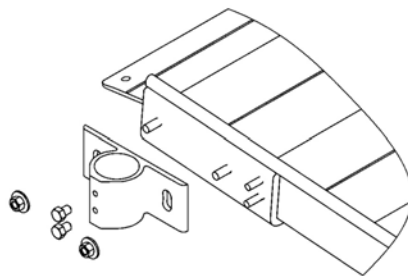

FIG 40
- i) Install support tube bracket on each top ramp support bracket using two each 3/8" nylock nuts into the threaded holes and two each 3/8" flat washers. DO NOT TIGHTEN (FIG 40).